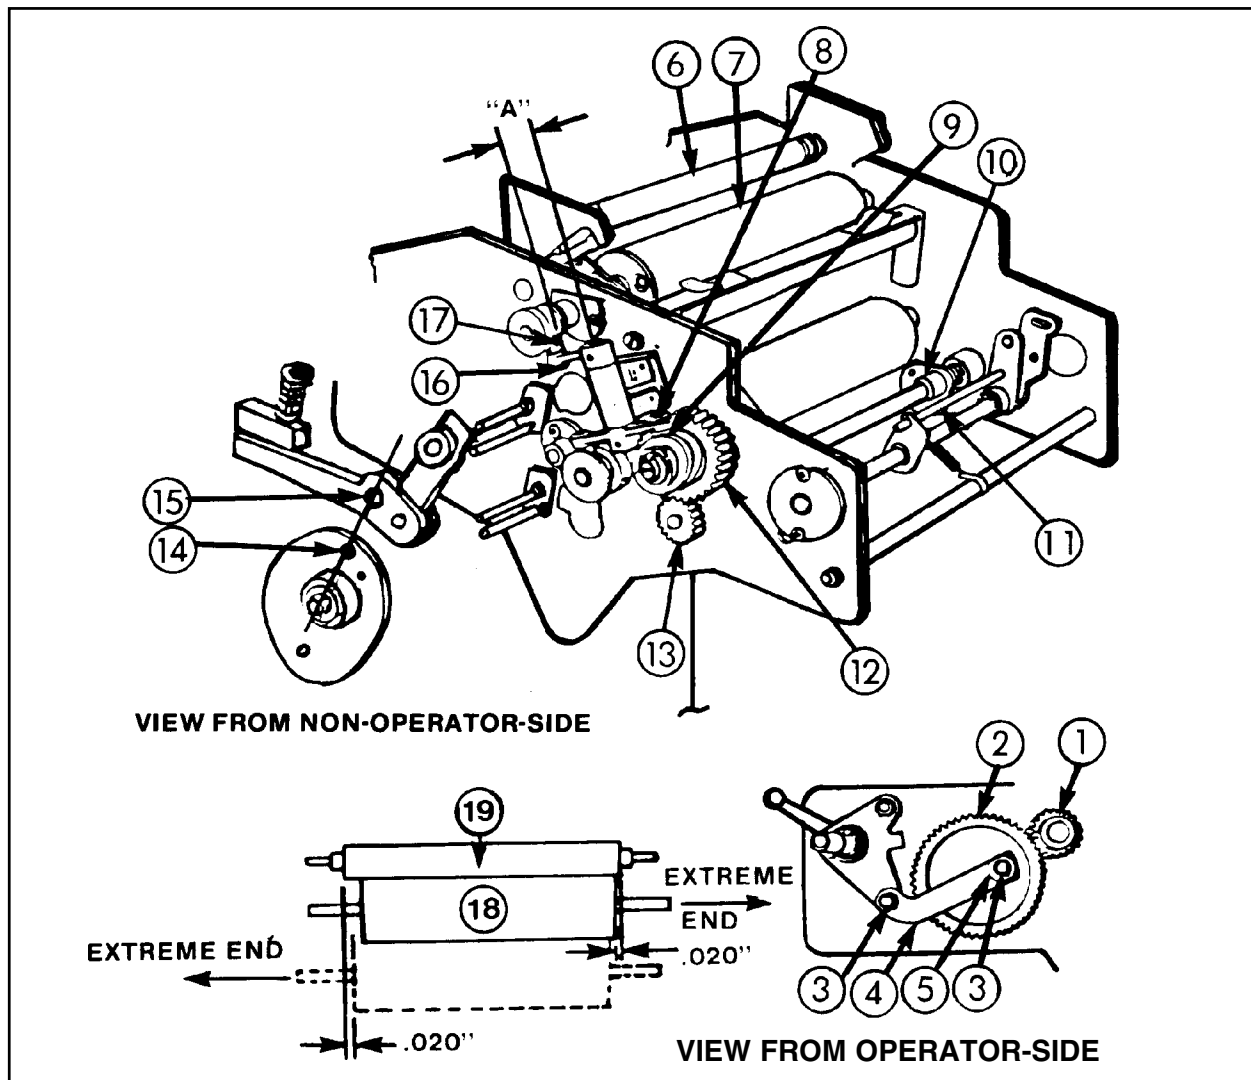

Figure 52 - Aquamatic Oscillator and Ductor Roller
- C. The aquamatic oscillator roller must be centered within approximately .020" at either extreme of travel with the ductor roller, and must not travel past the edge of the ductor roller at either end (see Figure 52).
- 3. Remove the taper pin (1) from the cam shaft gear (2).
- 4. Turn the handwheel until the largest hole in the impression cylinder separating cam (14) is in direct line from the center of the cam to the center of the Master Cylinder Support Arm pivot stud (15) (see Figure 52).
- 5. Remove the retainers (3), washer (5), and operating lever link (4).
- 6. While holding cam shaft gear (2), disengage the drive gear (13) from the waver cam and gear (12) by pulling gear and shaft outward.
- 7. Turn the waver cam and gear (12) in a clockwise direction from the non-operator side until the oscillator rollers have traveled to the extreme non-operator-side of the machine.
- 8. Slowly continue to turn the waver cam and gear (12) clockwise until the waver cam surface contacts the roller (9) and removes the slack from the waver operating lever (8).